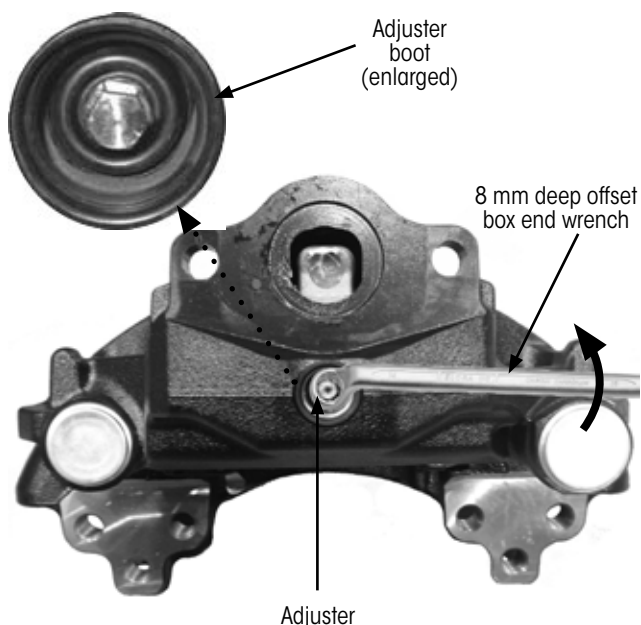

Figure 23: Rotating adjuster with an 8 mm deep offset box end wrench
6. **Check** the adjuster boot for wear and damage (Figure 23). Replace if damaged or worn.